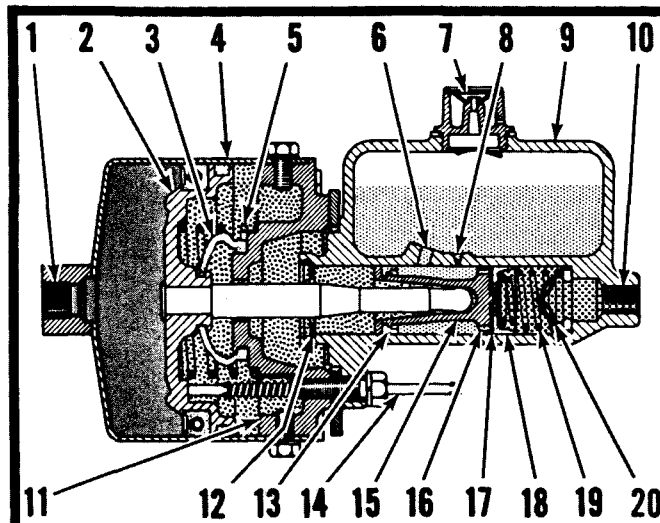

FIG. 1. BRAKE TREADLE DEPRESSED.
Fig. 1. Depressing either brake pedal sends air from the brake control valve to air chamber (4) at port (1). Pressure air acting on piston (2) moves piston (2), indicator (14) and piston (15) to the right. As piston (15) moves cup (18) past bypass port (8), brake fluid in the master cylinder bore is forced past valve (20) and through port (10) to the wheel cylinders.